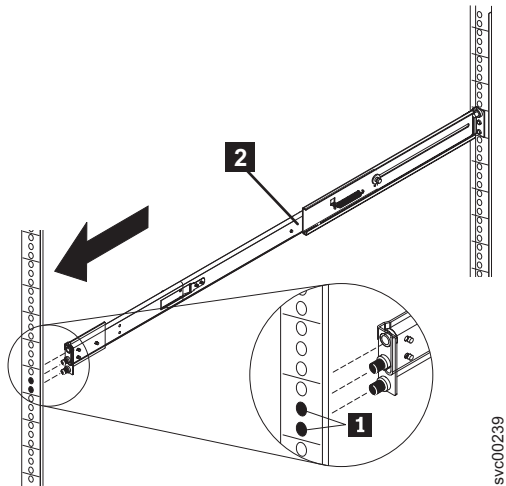

Figure 61. Extending the right slide rail
4. Extend the right slide rail **2** and insert it into the front rack mounting flange, as shown in Figure 61 on page 65, with the rail pins **1** protruding through the flange. Insert the left slide rail in the same way.